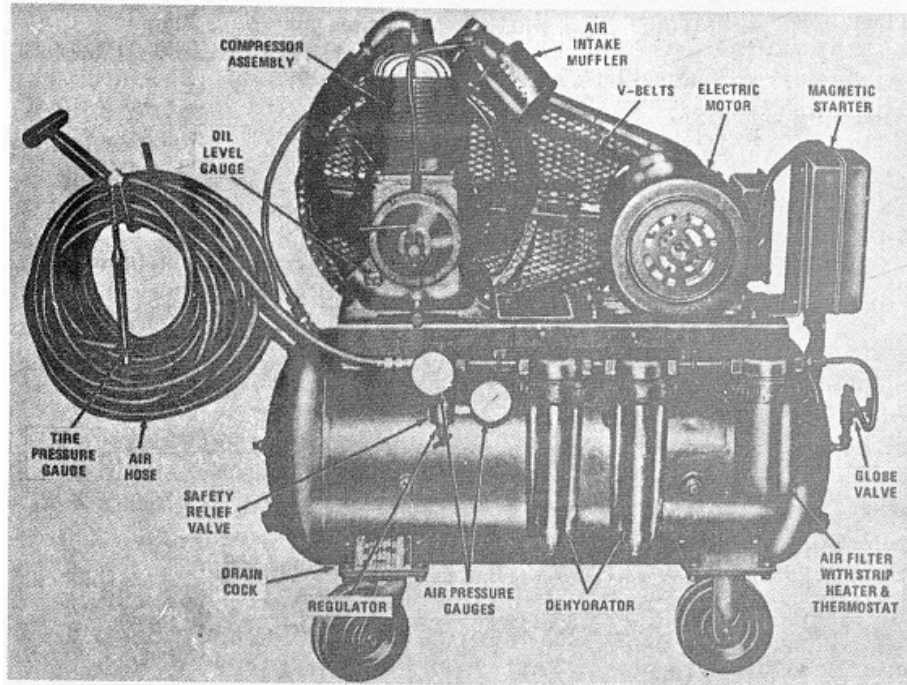

Figure 1. Air compressor, right side view
3. Open the drain cock (figure 1) in the bottom of a receiver tank to release the compressed air and condensate from the air receiver tank.
A. The model HR2-3M-1 air compressor (figs. 1 and 2) is a portable, castor mounted, reciprocating type compressor. It is designed to deliver 5 cfm (cubic feet per minute) of air compressed to 175 psi (pounds per square inch) pressure. The compressor is electric motor driven. The air compressor is a two cylinder, two-stage, air-cooled unit. It will deliver 5 cfm at 175 psi to the air receiver tank. The air receiver tank is of welded steel
- c. Install pressure gages as shown on figure 1.